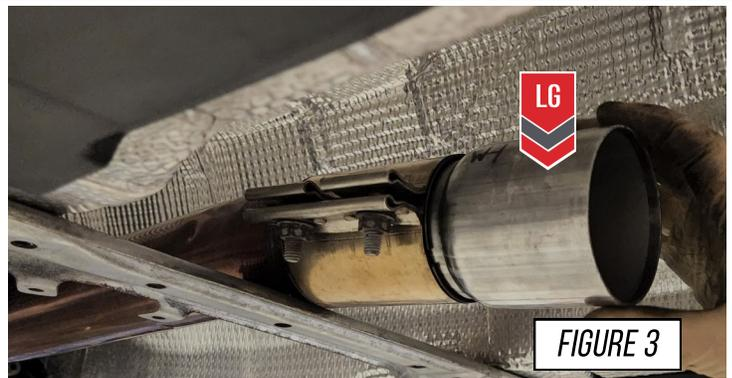

FIGURE 3
Install the AWE inlet adapter (**LG**), as shown in **Figure 3**. Snug the clamp but do not fully tighten it at this time.
**Note:** The OE sleeve clamp (**A**) will be re-used, as shown in Figure 3.